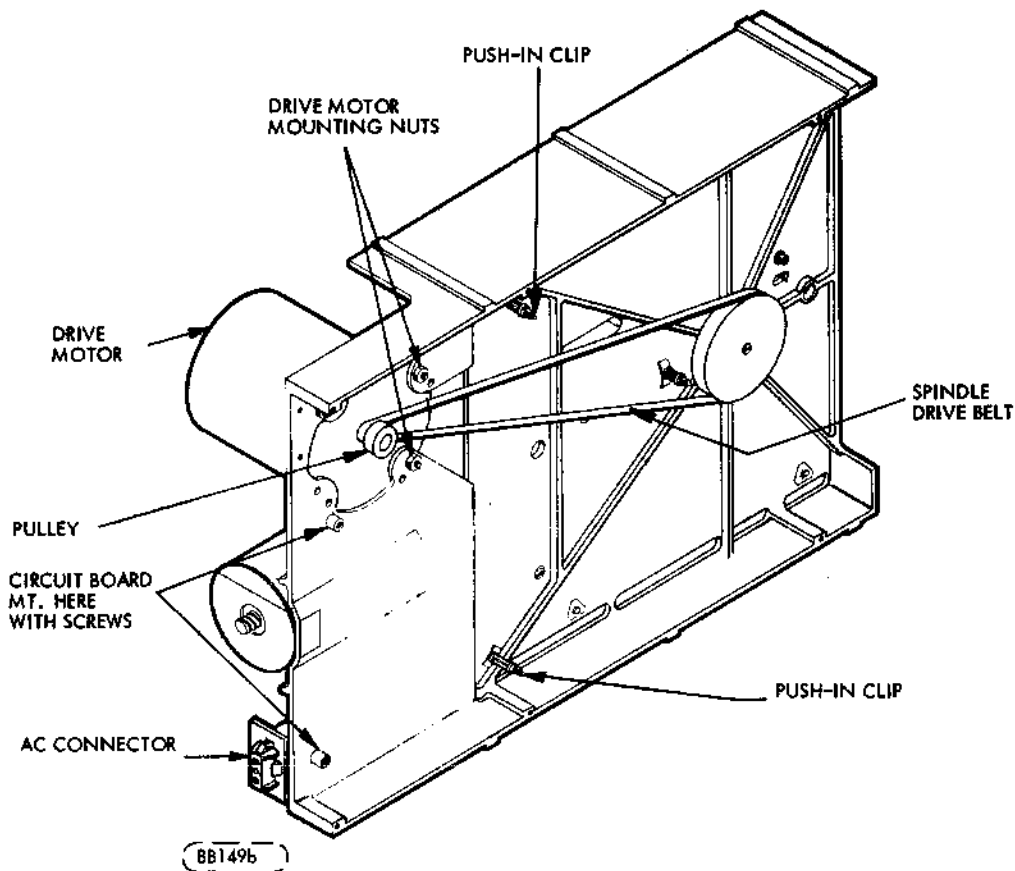

FIGURE 6-12. BASE CASTING ASSEMBLY .
- d. Remove two screws from printed-circuit board adjacent to connector J1 (Figure 6-12).
- e. Remove PWA by detaching it from the two push-in clips shown in Figure 6-12.
- c. Remove AC connector from bracket. (Figure 6-12)
- e. Remove spindle drive belt (Figure 6-12).
- f. Remove three (3) nuts securing drive motor (Figure 6-12).
This procedure is to be used to convert the FDD unit from 60 Hz operation to 50 Hz operation or vice versa. This is accomplished by reversing the dual diameter reversible pulley on the spindle motor shaft (Figure 6-12) using the following steps: